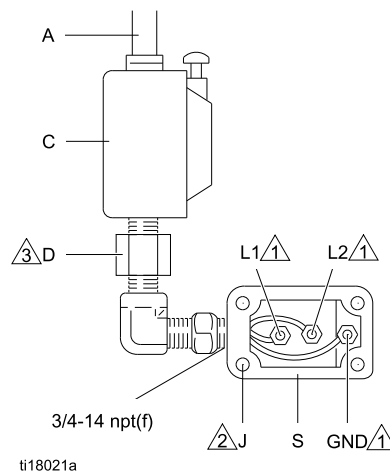

Figure 3 Connect the Power Wires, Single Phase
A conduit seal (D) is required within 18 in. (457 mm) of the motor for the US and Canada. See Figs. 3 and 4.
2. See Figs. 3 and 4. Install a start/stop control (C) in the electrical supply line (A), within easy reach of the equipment. The start/stop control must be approved for use in hazardous locations.
3. Open the electrical compartment (S) on the motor.
4. Bring the supply wires into the electrical compartment through the 3/4–14 npt(f) inlet port. Connect the wires to the terminals, as shown in Figs. 3 and 4. Torque the terminal nuts to 15 in-lb (1.7 N•m) maximum. **Do not over-torque.**
Notes for Figs. 3 and 4